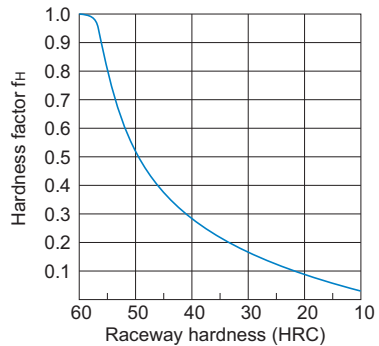

Fig.1 Hardness Factor (f_H)
- C : Basic dynamic load rating (N)
- P_C : Calculated load (N)
- f_H : Hardness factor (see Fig.1)